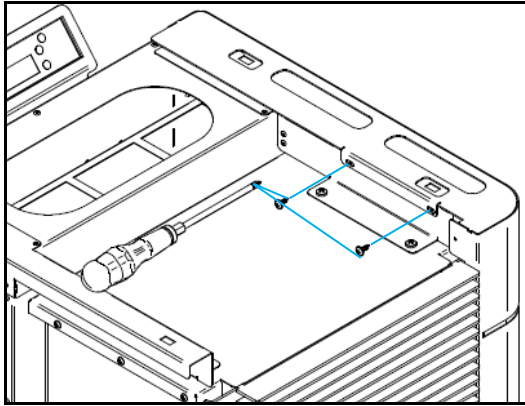

Figure 24 - Attaching the side casings the top of the unit
d) Repeat the process described in b) and c) in this manual for the other casing and secure the side parts using four screws from the kit, two on each side, as shown in Figure 24.
f) For the model K200 it is also necessary to place the finishing front that came together with the machine. You must use 2 screws of the kit as shown in Figure 24.